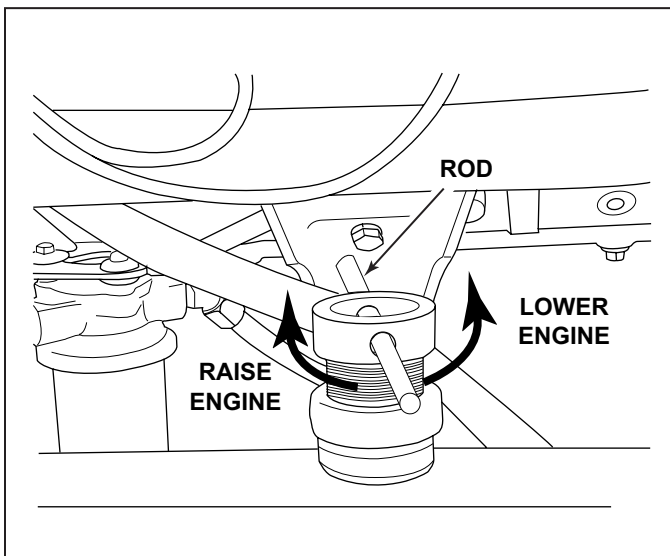

Figure 10-24 Engine Mount Adjustment
- **UP or DOWN OFFSET ADJUSTMENT:** Loosen the lag bolt 1/4 turn. Use the mount adjusting tool or a 3/8 in. (0.95 cm) or 1/2 (1.27 cm) diameter rod through both sides of the adjusting sleeve to turn (Figure 10-24). Turn the adjusting sleeve in the direction required to raise or lower the engine. After the adjustment is complete, tighten the lag bolt.
- **UP or DOWN ANGULAR ADJUSTMENT:** Loosen the lag bolt 1/4 turn. Use the mount adjusting tool or a 3/8 in. (0.95 cm) or 1/2" (1.27 cm) diameter rod through both sides of the adjusting sleeve to turn (Figure 10-24). Turn the adjusting sleeve in the direction required to raise or lower the engine. After the adjustment is complete, tighten the lag bolt.